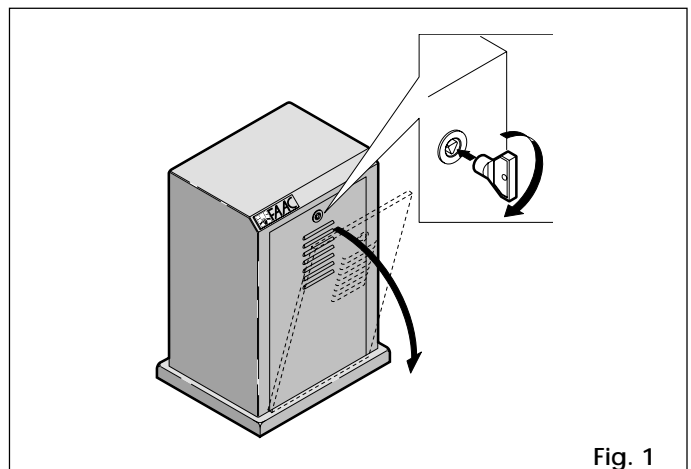

Fig. 1
- A safety microswitch in the release system prevents the automation from being activated by accidental commands (7, fig. 1).
- Open the door in the casing using the triangular key provided (see Fig. 1).